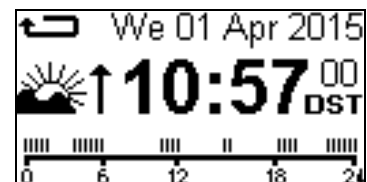

Рисунок 6.1 – Главный экран таймера
After providing the power to the timer the display shows the main screen (figure 3.2, pos.1) resulted in the figure 6.1.
Note – to review the events it is necessary to be on the main screen of the timer, a figure 6.1.
- If there are no mistakes found during verification, the display will show a message **Correct Settings** for 2 minutes and the timer will return to the Main Screen (figure 6.1);